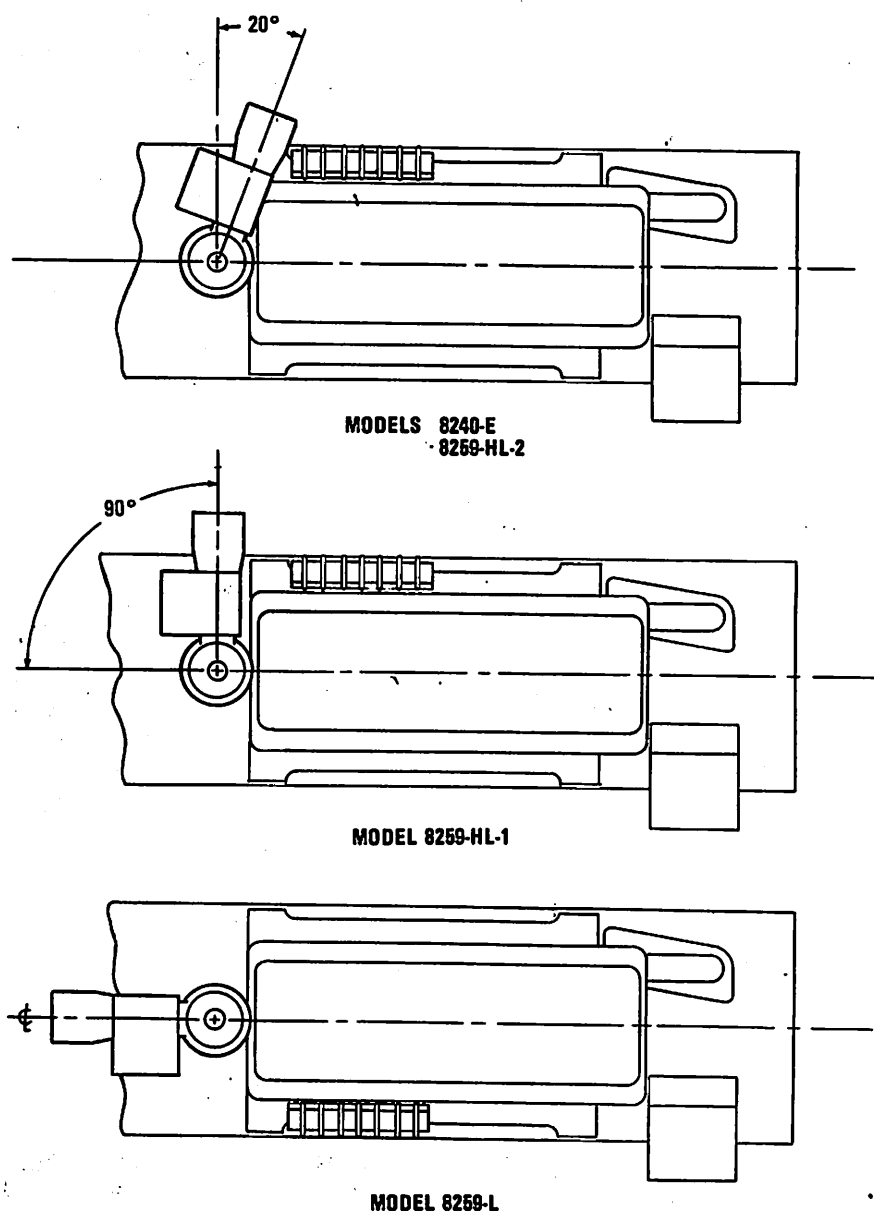

Figure 6-3. Airflow Switch Positions for Different Heater Models
(2) When installing the shelf assembly (43), apply sealant to the weld nuts in the heater case before inserting the screws (44).
(3) Apply a 1/8-inch bead of sealant to the area of the heater case which will be covered by the duct limit switch (31) before installing the switch. Tighten the screws (32) firmly and wipe off excessive sealant.
(4) Apply a 1/8-inch bead of sealant to the area approximately midway between the ventilating air blower mounting studs and the end of the heater before installing the ventilating air blower (1). Wipe off excessive sealant after tightening the nuts (2).
e. Different models of the heater assembly require different positioning of the inlet port of the airflow switch (12). Refer to figure 6-3 for information regarding airflow switch orientation at reassembly.